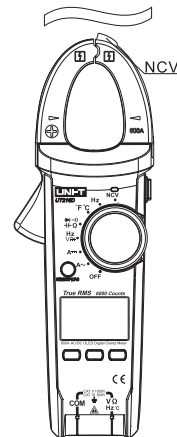

Fig. 12
11.Measurement of induced voltage (shown as Fig. 12)